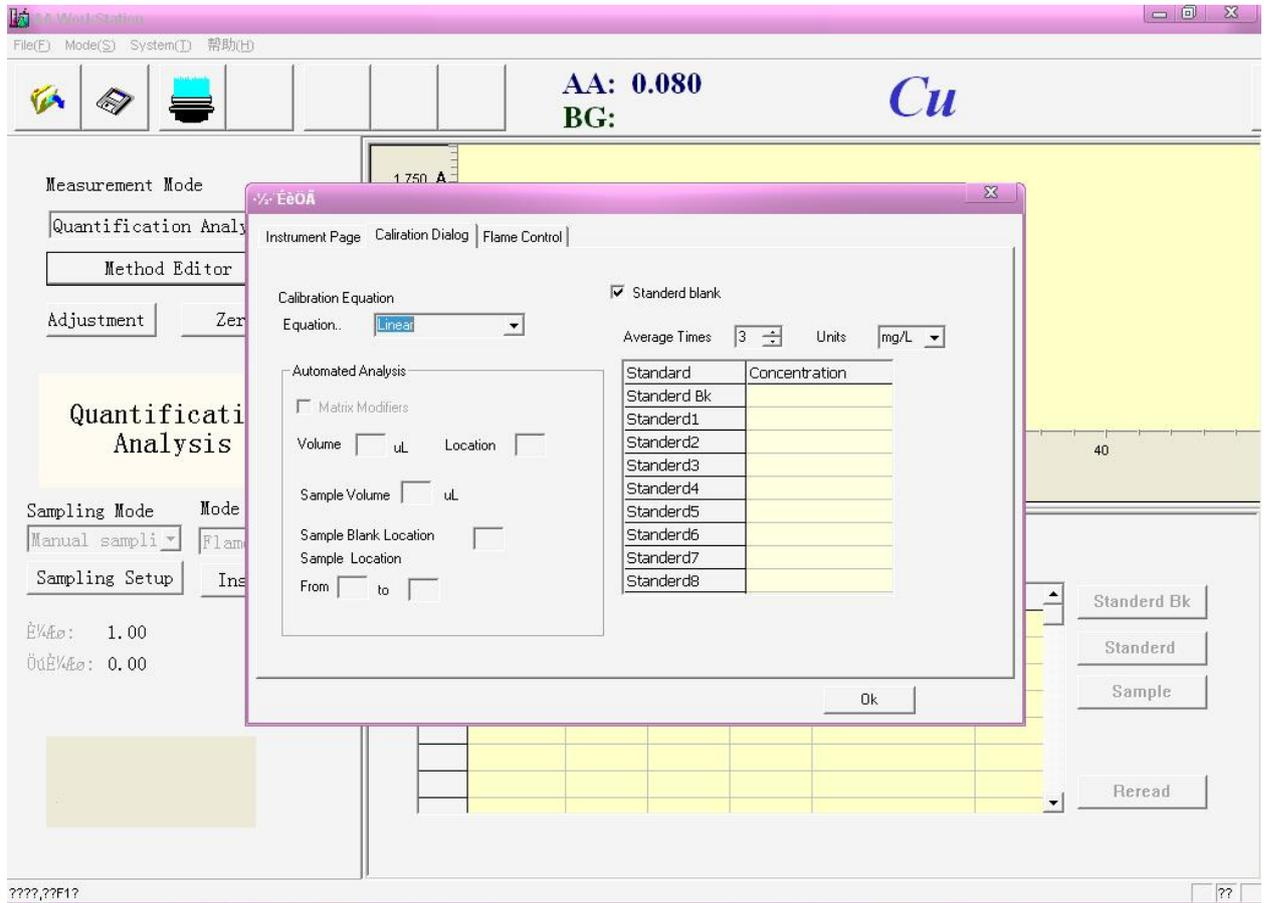

Figure 5-17
5. Press **【OK】** ,open the “Calibration Dialog”window.figure 5-17